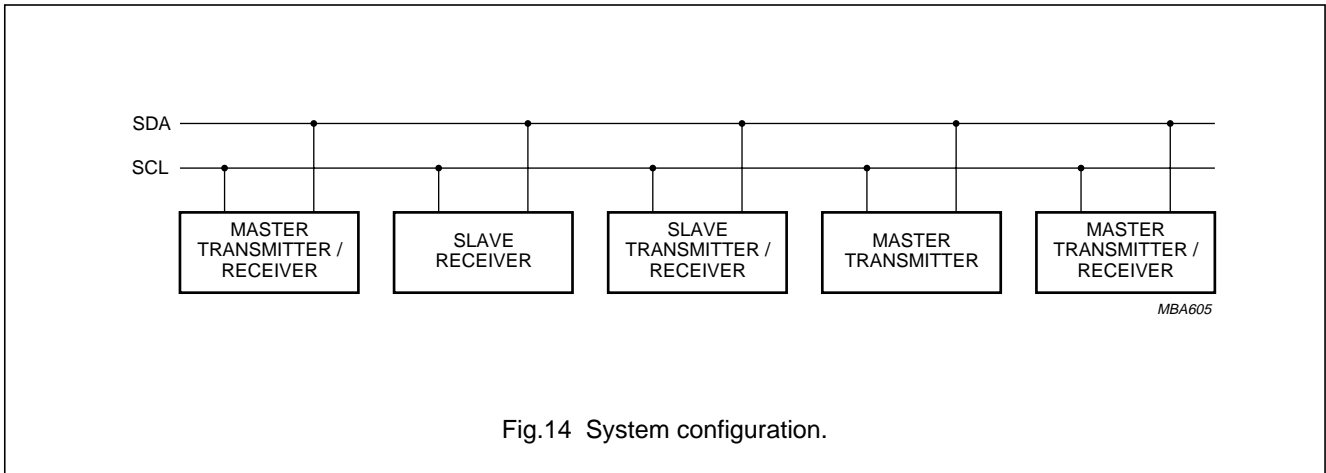

Fig.14 System configuration.
**8.3 System configuration** (see Fig.14)